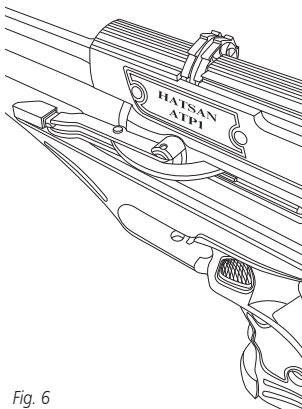
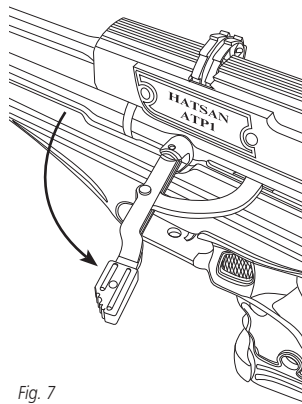
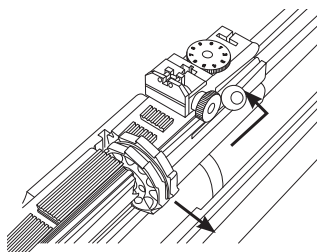

Fig. 6
Fig. 7
Fig. 8
2. To remove the magazine, pull the cocking lever until it locks and push forward the magazine release bolt and lock it upwards. Then remove the magazine by pulling it to the right. (Fig. 6, Fig 7, Fig. 8)